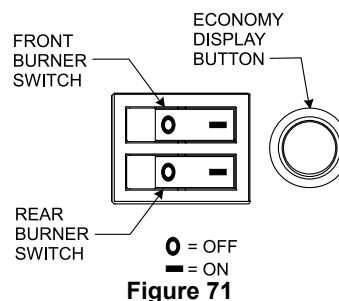

Figure 71
D. Turn both burner switches on to ignite both the front and rear burners. Burner switches must remain in the ON position for the remote to function. See Figure 71.